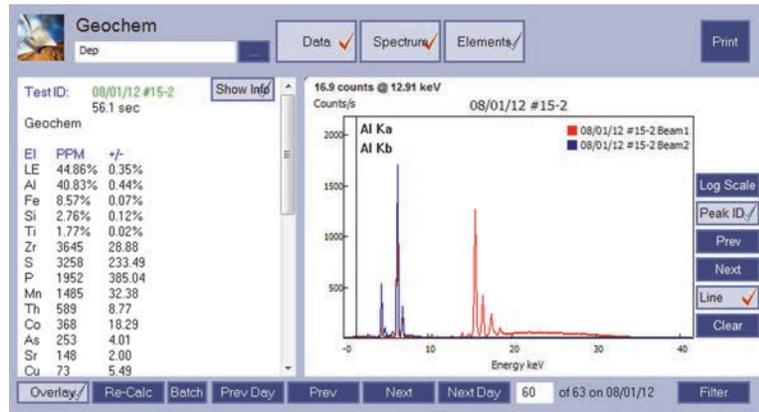

Figure 7-6 The Spectrum display showing emission line markers
- Click **Line** to activate the emission line markers for individual elements (see Figure 7-6 on page 100).